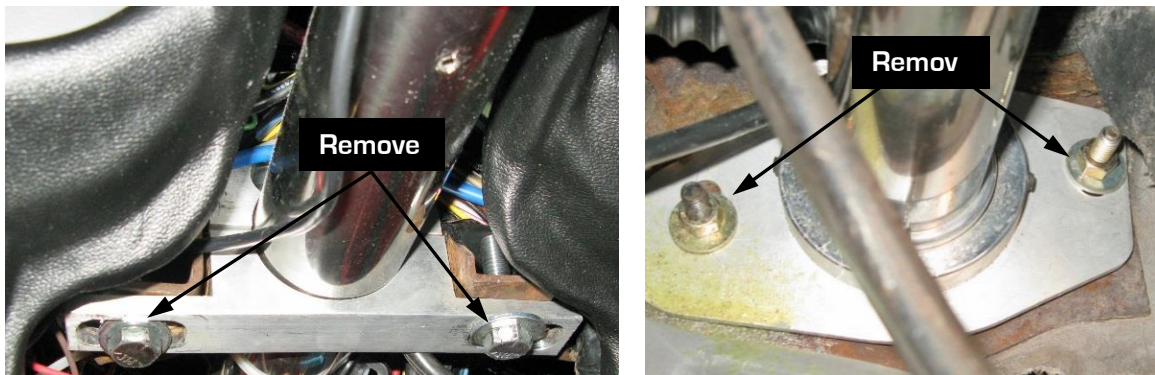

Figure 11 – Remove Steering Column Hardware
20. Remove the 2 bolts holding the steering column to the support brace, Remove the 2 carriage bolts from the lower part of the column (Figure 11). **NOTE:** The steering column used in the pictures below is from an aftermarket column.